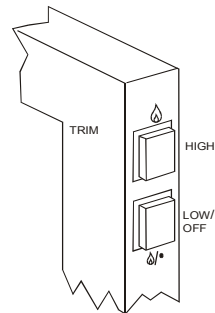
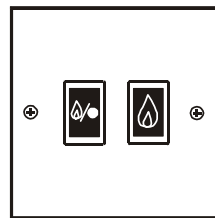

Figure 12 – Trim Switch
Figure 13 - Wall Switch
1. Ensure the main burner is off by pressing the button on the trim marked  (‘small flame/dot’) until clicking is heard on the valve (see **Figure 12/****Figure 13**).
6. Press and hold the  (‘large flame’) button (in **Figure 12/****Figure 13**) until clicking is heard (fully open).